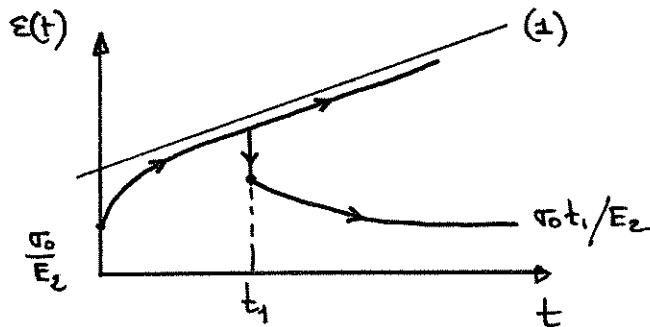

Figure 7. Creep curve for a Burger model.
The creep curve corresponding to eq. (12) is shown in Figure 7.
$$\epsilon(t) = \frac{\sigma_0}{E_1} + \frac{\sigma_0}{E_2} + \frac{\sigma_0}{\eta_2} t \text{ shown as line (1) in Figure 7.}$$
As $t \rightarrow \infty$, $\epsilon(t)$ approaches a finite strain equal to $\sigma_0 t_1 / E_2$. (see Figure 7)